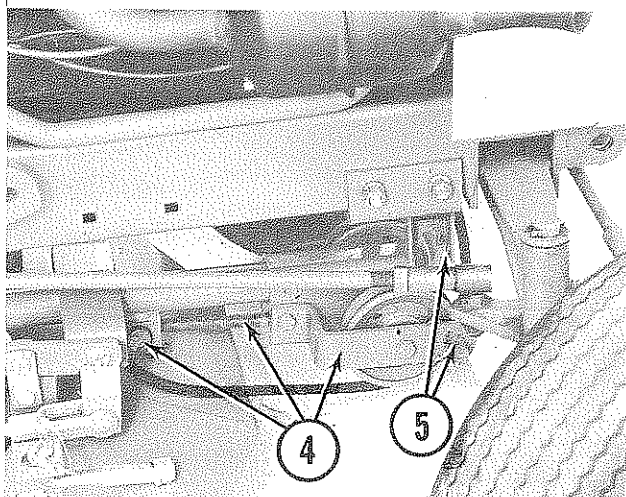

Figure 13. Connecting the Idler Assembly to Lift Tube
4. Position the drive belt under the mower lift tube. Apply a light coat of grease to the forward few inches of the mower lift tube. Remove the anchor pin from the threaded end of the adjusting crank and start the idler assembly on the lift tube as shown in Figure 13. Slip the anchor pin through the tabs on the lift tube and connect with the adjusting crank as illustrated.